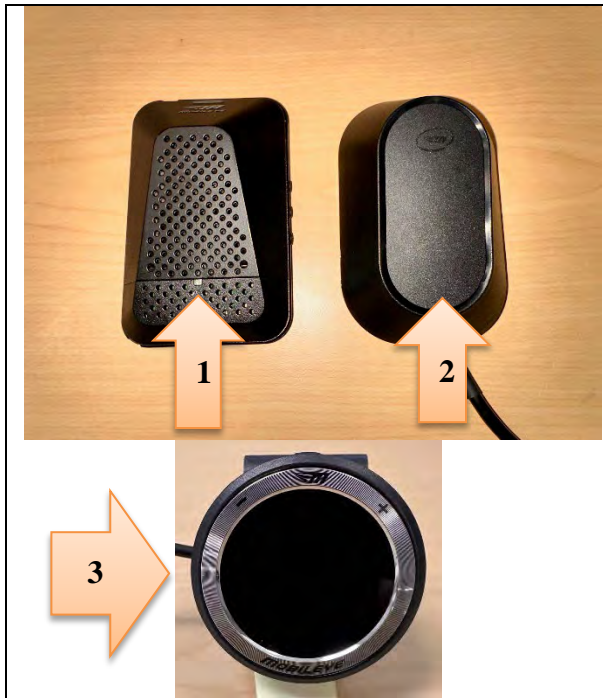

Figure 1
1. With the Engine Control Switch turned to the “ON” position, engine “OFF”, move the turn signal lever to the left turn or right turn position and confirm that each indicator on the instrument panel cluster operates properly. Confirm that the light on the Mobileye camera is on and no codes are present in the EyeWatch display. (See Figure 1.)